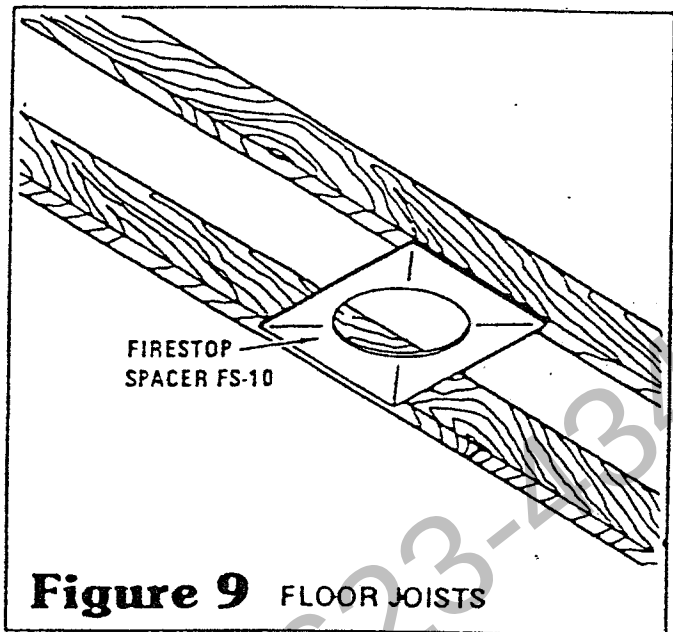
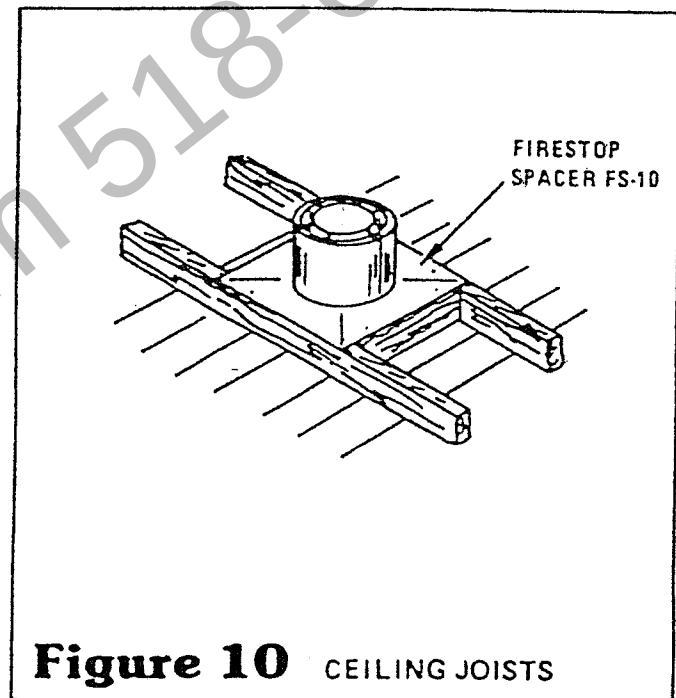

Figure 9 FLOOR JOISTS
Figure 10 CEILING JOISTS
Step 6 If triple-wall pipe goes through framed opening in between floors, install firestop to stabilize chimney. You do this by wrapping firestop around the pipe section and nailing it to bottom of joists or trusses. (Figure 9). When triple-wall pipe goes through framed opening in ceiling to attic space, install firestop spacer on top of ceiling joists (Figure 10).